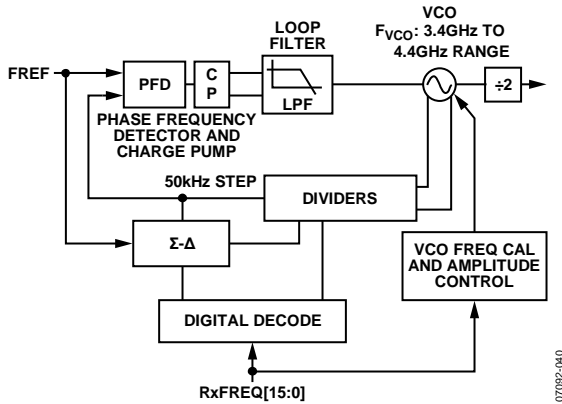

Figure 41. Frequency Synthesizer Block Diagram
The ADF4602 contains two fully integrated programmable frequency synthesizers for generation of transmit and receive local oscillator (LO) signals. The design uses a fractional-N architecture for low noise and fast lock-time. The fractional-N functionality is implemented with a third order Σ - Δ modulator. Figure 41 shows a block diagram of the synthesizer architecture.